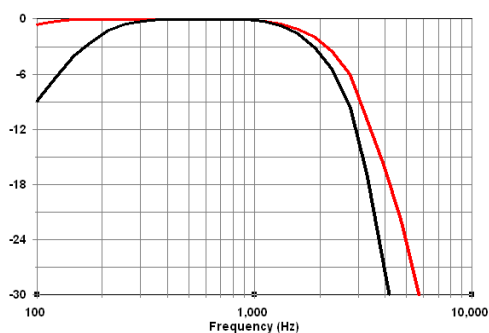

Fig A6-1a SSB TX and RX Response
**Frequency Response of SSB** Fig A6-1a is the response of typical 2.7 kHz crystal filters used to generate and receive SSB. The red curve is the response of the TX filter alone; the black curve is the cascaded response of the TX filter and the filter in the receiver. In addition, an international standard calls for limiting bandwidth to 2kHz, and many SSB rigs have a built-in 2kHz rolloff. The frequency spectrum between about 1kHz and 3kHz is critical to good speech intelligibility, so the severe rolloff of Fig A6-1a tends to make speech somewhat muffled and indistinct. The rolloff can be compensated by boosting (pre-emphasizing) the response in the 2-4 kHz region. Virtually all popular "communications" microphones are built with this boost, so they sound fine. The Shure 450